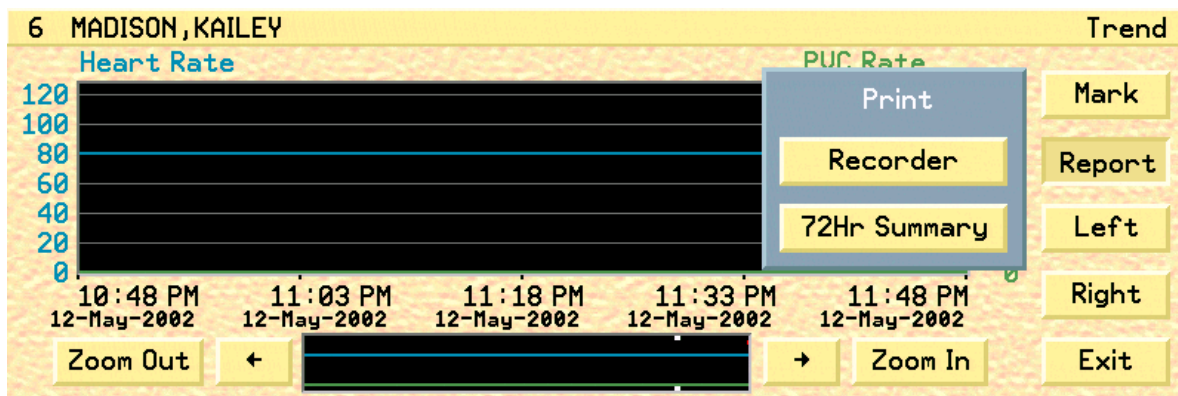

Fig. 79. Trend Report Popup
1. Press the **Report** button on the Trend screen to display the Report popup (fig. 79).